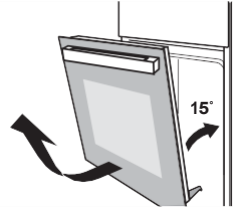

Figure 2
2.) Close the door to an angle of approximately 15°. Lift up and slowly pull the door out from the oven. (Figure 2)